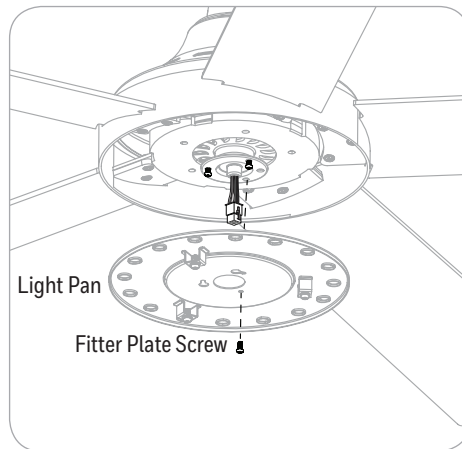

Figure 5.5
5. Remove one of the fitter plate screws from the fitter plate, and loosen (do not remove) the other two. Then, insert the wires from the center of the fitter plate through the hole in the light pan. Align the light pan over the loosened fitter plate screws, then place the keyholes of the light pan onto the fitter plate screws and rotate the light pan clockwise. Secure the light pan with the previously removed fitter plate screw. Tighten all three screws (Figure 5.5).